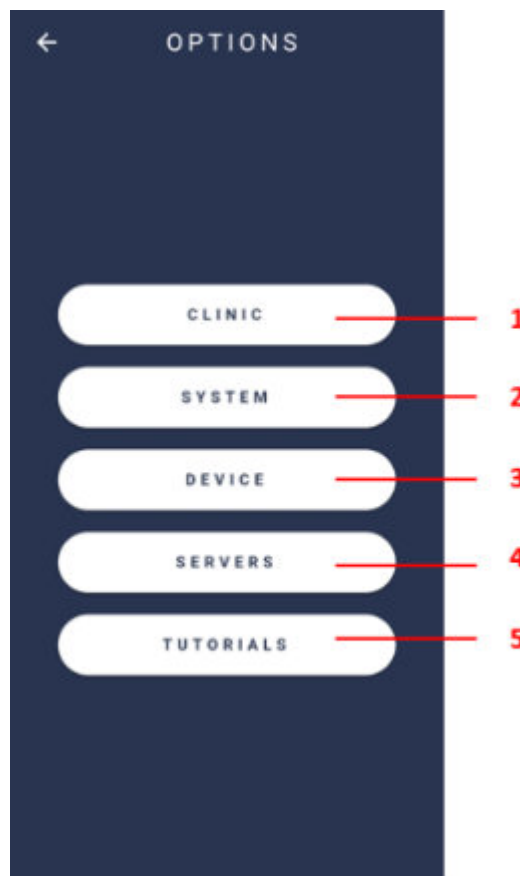
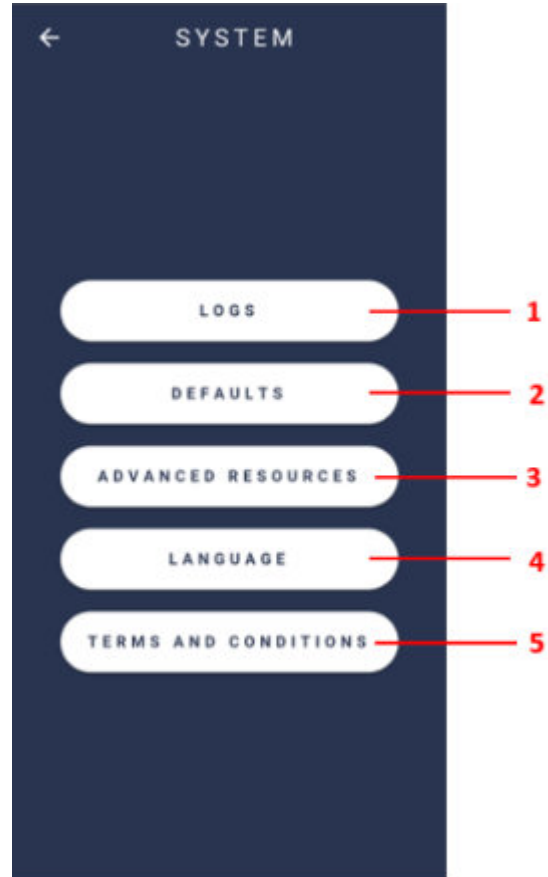
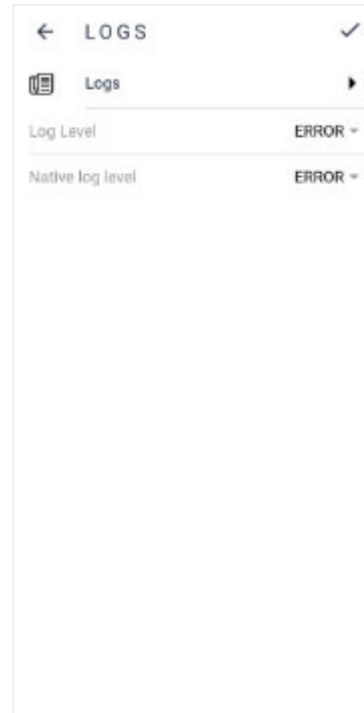
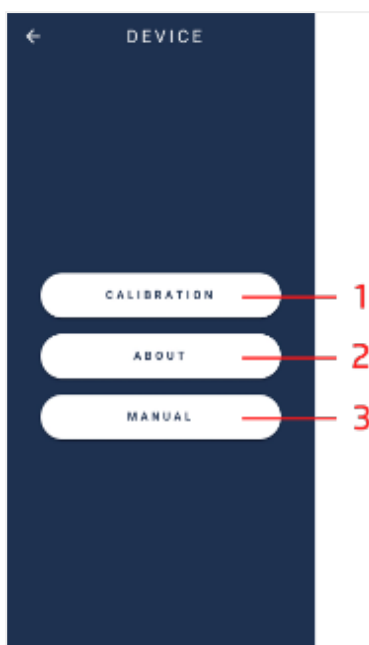

Figure 93: "Options" tag available functions.
Figure 95: System screen
Figure 96: System logs.
Figure 104: Technical information on the device
Option 3 on the application start screen refers to the “options” button, figure 25, which enables visualizing information on the clinic, system, device, and servers, figure 93.
Option 1. “Clinic”, figure 93, displays information on the accessed clinic, figure 94.
Option 2. “System”, figure 93, displays options to visualize system logs, default settings and language, as well as terms and conditions, figure 95.
Function 1. “Logs”, figure 95, presents options to control the registry, which is used to diagnose system issues, figure 96.
The option “device” contains information on the device, item 3, figure 93. When selected, there are three available options: 1. Calibration, 2. About, 3. User Manual, figure 104.
Click the option 1. “Calibration”, figure 104, to proceed to the screen as in figure 105.
Access the user manual through the application “Manual”, figure 11, section 3 or option 3, “Manual”, figure 104.